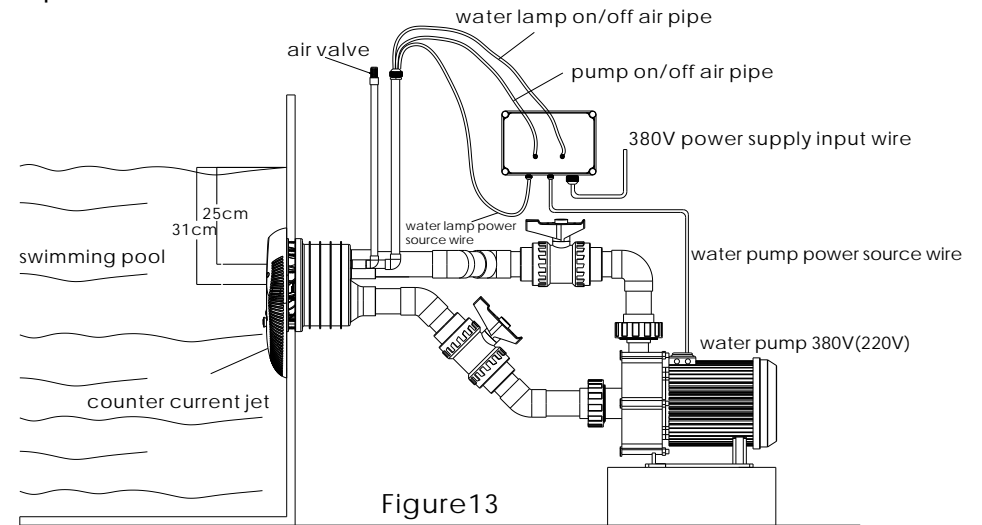

Figure13
- 1) Please refer to figure 13 for the whole installation.